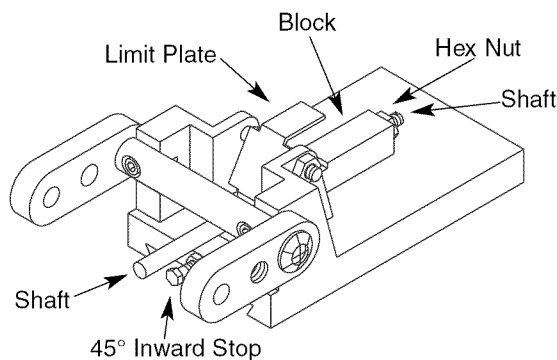

Figure 4 - Limit Stops
- Make sure limit plate (Figure 4, page 4) is resting in slot of block. Position fence against shaft and lock fence in position with fence tilting handle.